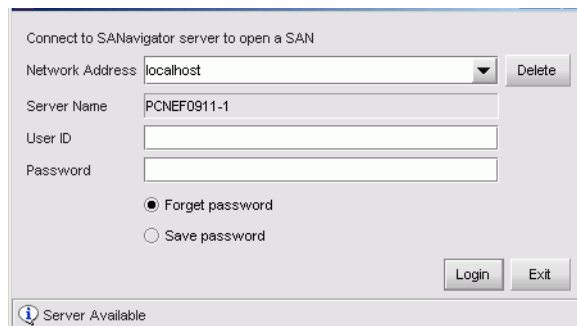

Figure 2-17 EFCM Log In or SANavigator Log In Dialog Box
5. Type the default Windows 2000 user name and password and click **OK**. The management server Windows 2000 desktop opens and the *EFCM Log In* or *SANavigator Log In* dialog box displays (Figure 2-17).